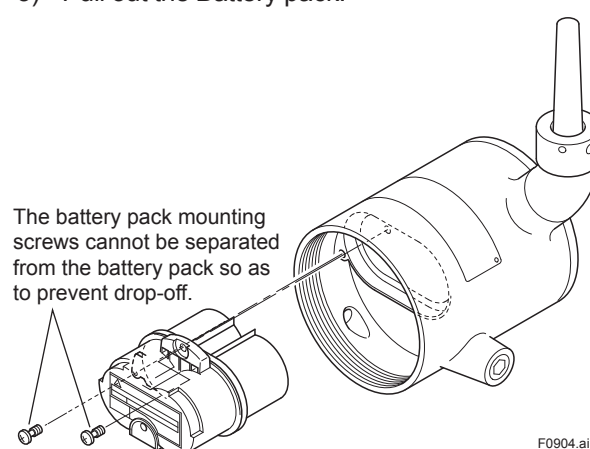

Figure 9.4 Removing the Battery Pack
- 2) Loosen the two battery pack mounting screws (see Figure 9.4).